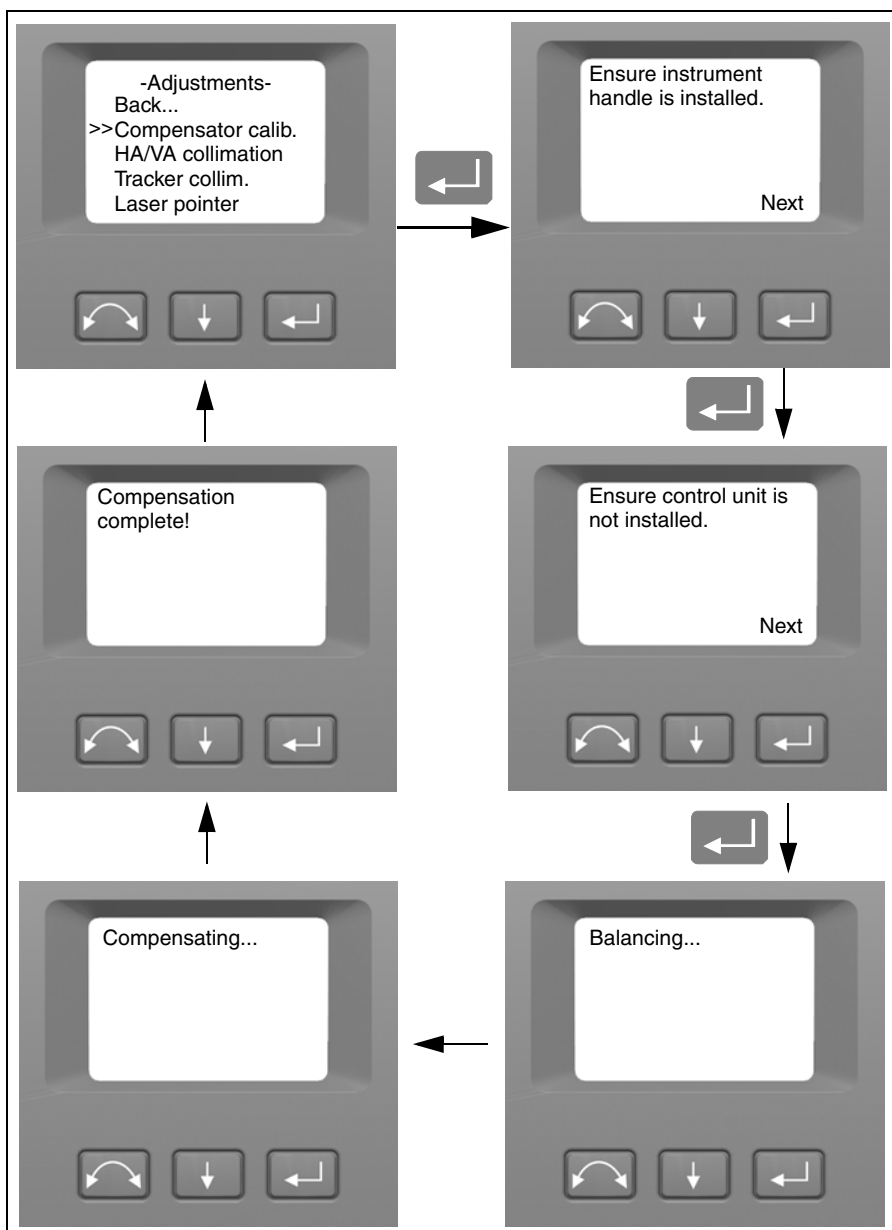

Figure 4.27 Compensator calibration routine
3. Follow the instructions in the display. Figure 4.27.